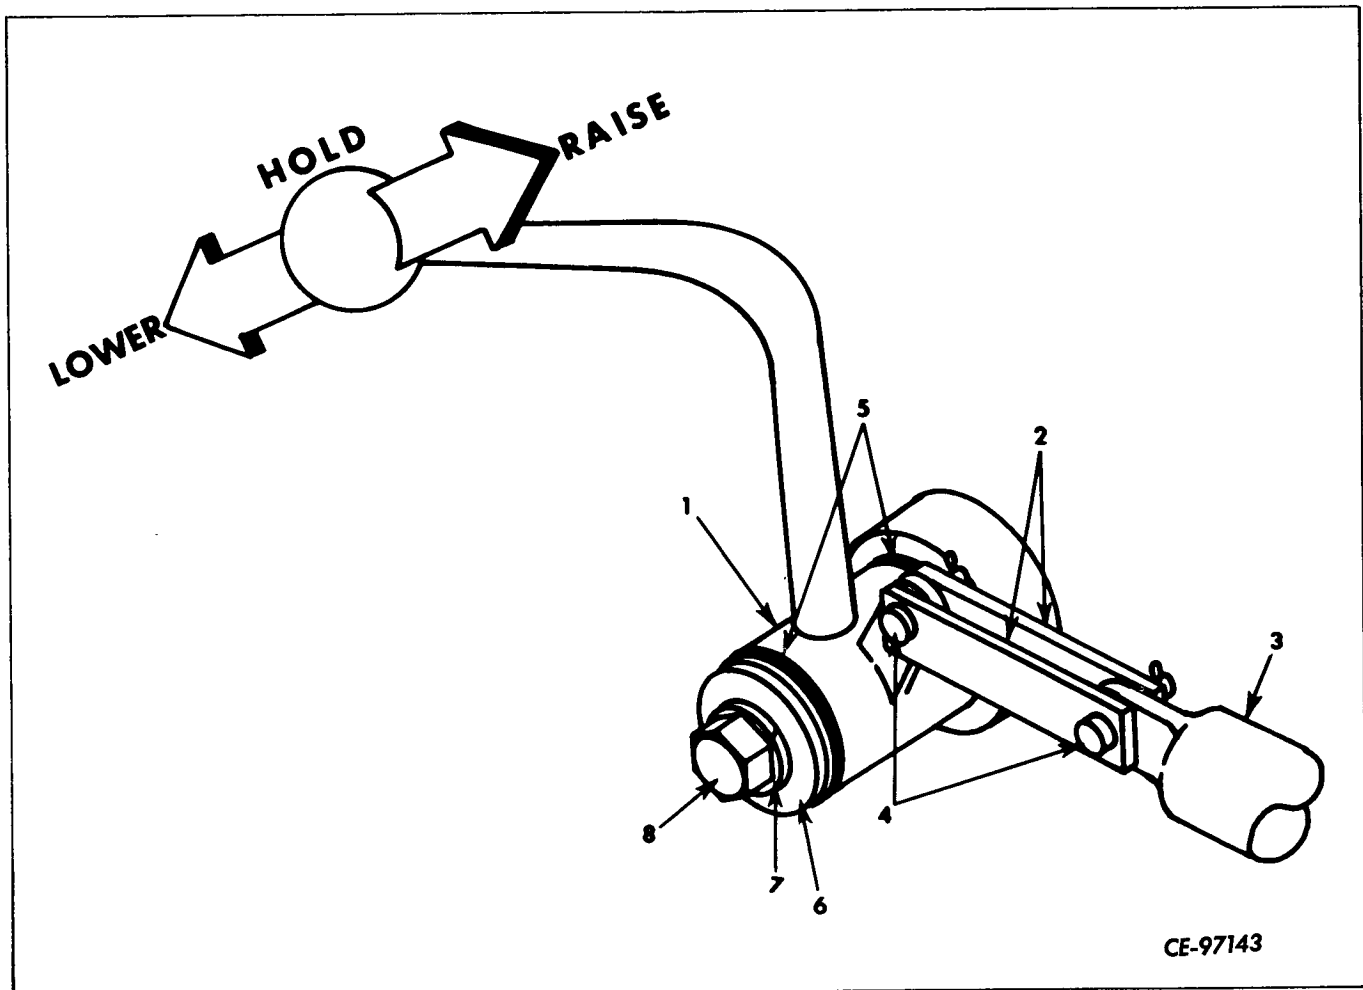

Figure 9-6
Disconnect links (2, Fig. 9-6) between valve spool (3) and blade control lever (1) by removing cotter pins and clevis pins (4).